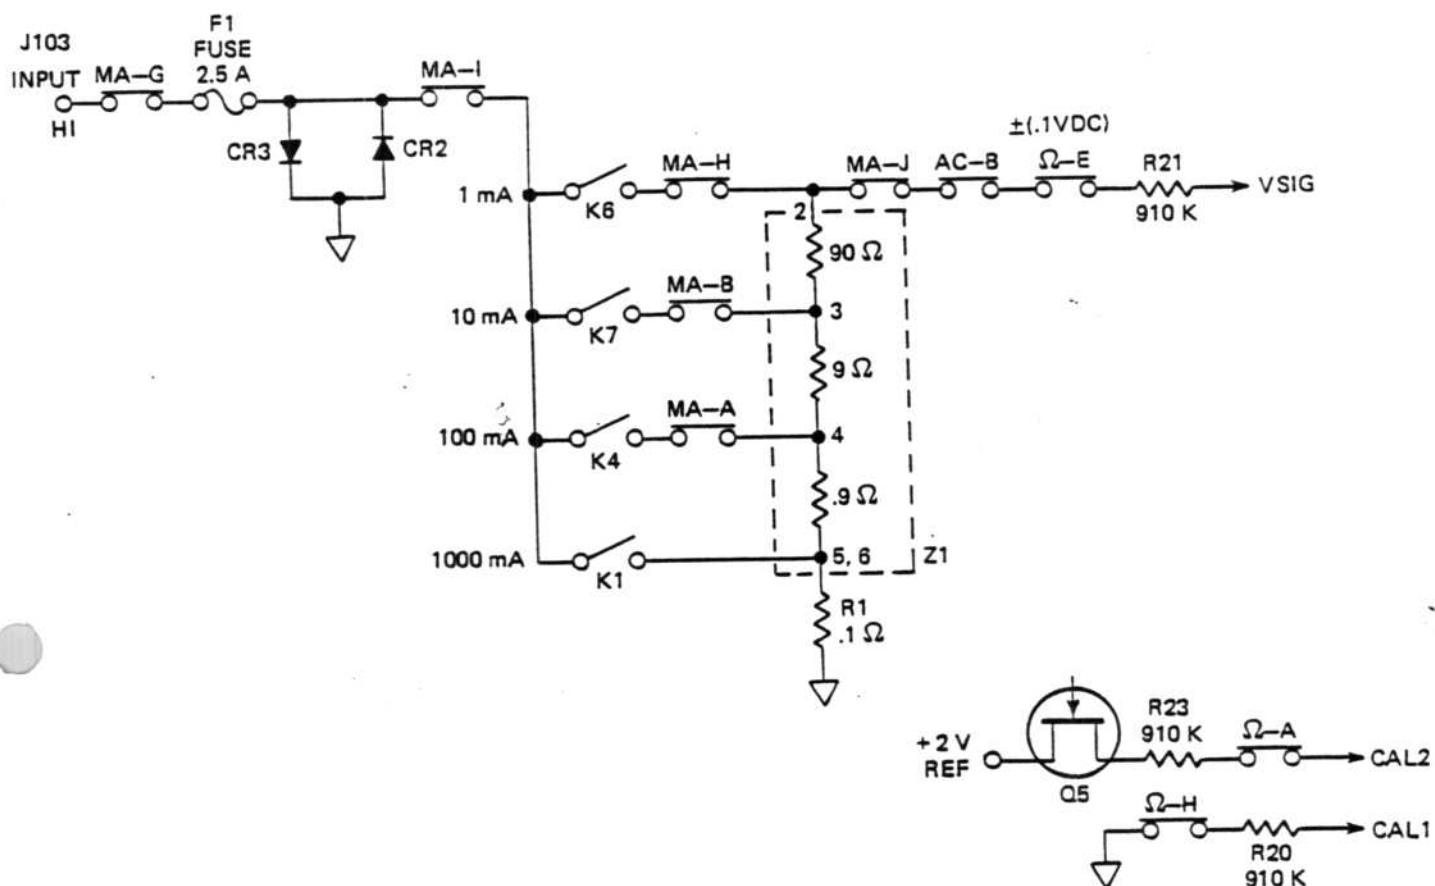

Figure 4.9 - 5001 DC-mA Front-End Diagram
4.4.4.2 Refer to Figure 4.8 which shows a simplified DC-mA input signal path with schematic and Figure 4.9 which provides a DC-mA front-end diagram. When the DC-mA function is selected, the input measurement signal applied to the HI and LO INPUT terminals is routed through switches MA-G and MA-I to the decade resistor/relay network of Z1, R1 and K1, K4, K6 and K7.